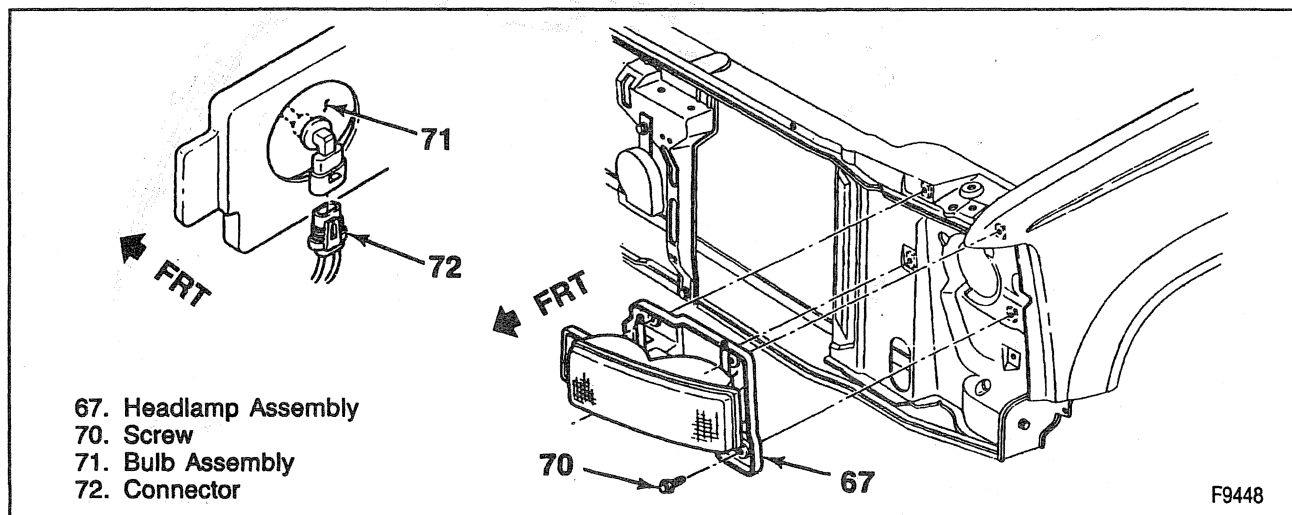

Figure 4—Composite Headlamp Assembly
2. Two long screws from the top of the radiator support (figure 4).